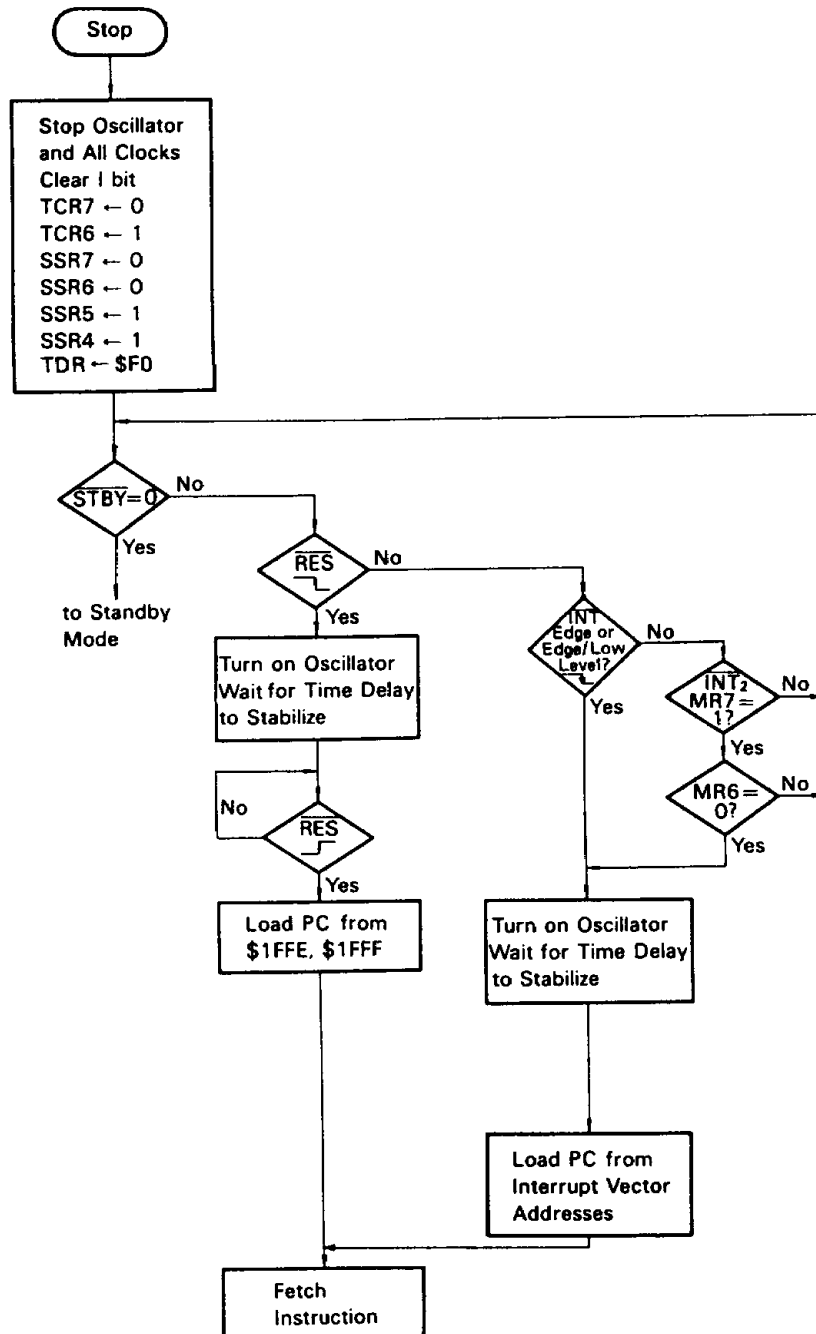

Figure 24 Stop Mode Flowchart
Fig. 24 shows a flowchart of STOP instruction execution.
**See Figure 24